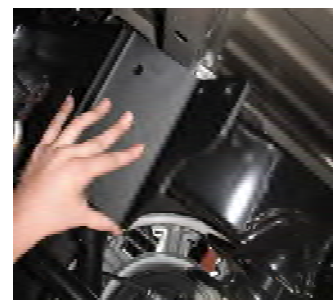

Figure 6.2: Passenger side plate looking from floor up at the passenger side frame.
Position the side plate with (2) bends so the two round holes match up with the u-bolt on the passenger side and push the u-bolt into the holes. (See Figure 6.2) Secure the side plate and u-bolt with lock washers and nuts. Attach this side plate to the front cross member and center using a 1/2" x 1-1/2" bolt through the center, cross member and side plate along with a lock washer, two flat washers and hex nut. Finish by attaching a 1/2" X 1-1/2" bolt through the cross member and the side plate adding a flat washer, lock washer and hex nut. Hand tighten these connections.